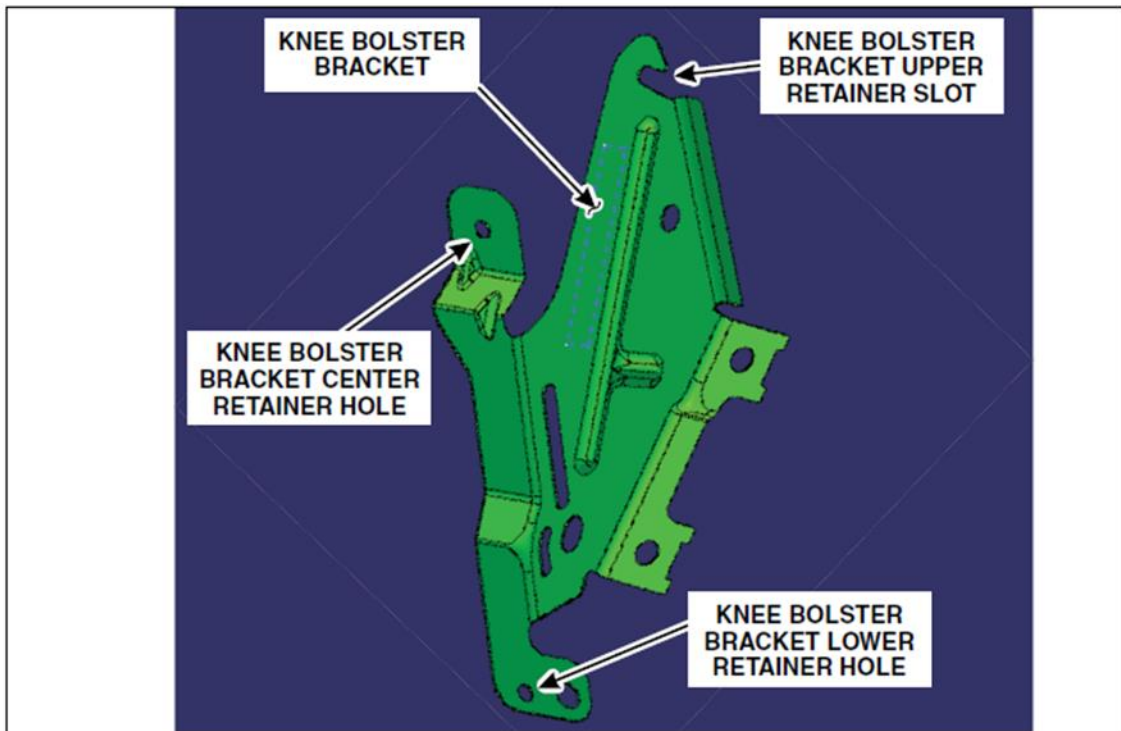

FIGURE 11
9. Loosen, **but do not remove**, the upper knee bolster bracket retainer, then fully remove the center knee bolster bracket retainer. See Figure 11